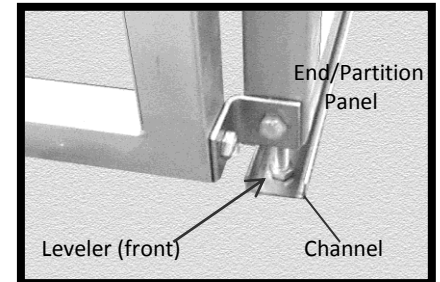

Figure 24: End/Partition Panel installed in Channel
7. Set all four end/partition panels in place with the levelers in the channels (Figure 24). Make sure the panels are even with both ends of the channels.
6. Set the end/partition panel in place with the levelers in the channels (Figure 24).
6. Set the end/partition panels in place with the levelers in the channels (Figure 24), and install the trough cover (if used).